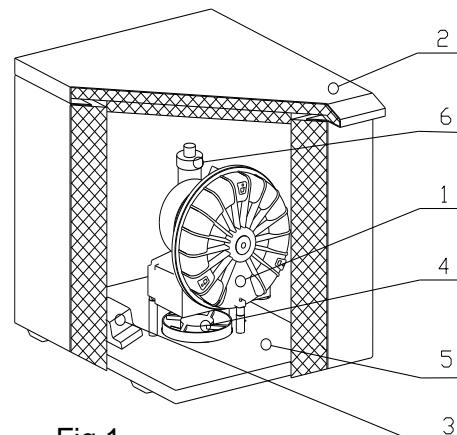

Fig.1
Suction pump (1) (Fig.1) creates vacuum in the pneumatic control module thus it aspirates foreign matters away from the working area of the physician and sucks them into the separator at the dental chair. Only clean air continues past the separator through the pump of the suction unit, and then, is pushed through a supplementary silencer (6) and continues through the output hose and vented to the environment outside of the building. Suction unit is switched on by means of a switching block (3) after receiving a signal from the dental chair (voltage 24V AC/DC) or by switching-on at the suction unit switch. Suction pump is mounted above the cooling fan (4) which is fixed to the base (5). The cooling fan draws air into the insulated soundproof metal box (2), which stands on feet to allow the air in, and vented slots in the rear to allow the air to blow through.